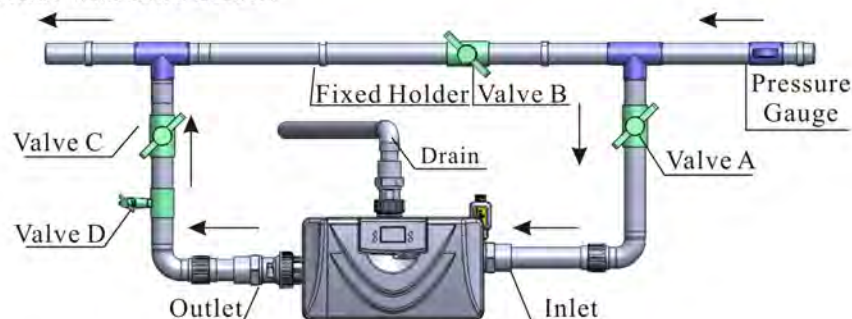

Figure 1-3
③ Pipeline connection
- As Figure 1-3 shows, install a pressure gauge in water inlet.
- Install valves A, B, C, D in inlet, outlet and pipeline as showed in Figure 1-3. Valve D is a sampling valve.